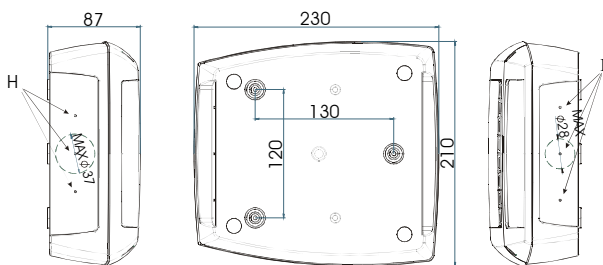

FIG. 3
3. Make the proper holes for cablepresses or pipepresses using the centres signed in the bottom cover of the Cool Mate, (Fig. 3, H, I, J). Then make 3 holes in the wall, as indicated in (Fig. 3, L, M, N), to fix the Cool Mate
5. Insert the wall-nugs, contained in the kit, into the holes made in the wall. Then use the o-rings and fix the back part of the Cool Mate (Fig. 3, L, M, N) by means of the 3 screws to the wall itself.
5. Make the proper holes for cablepresses or pipepresses using the centres signed in the bottom cover of the Cool Mate, (Fig. 3, H, I,).